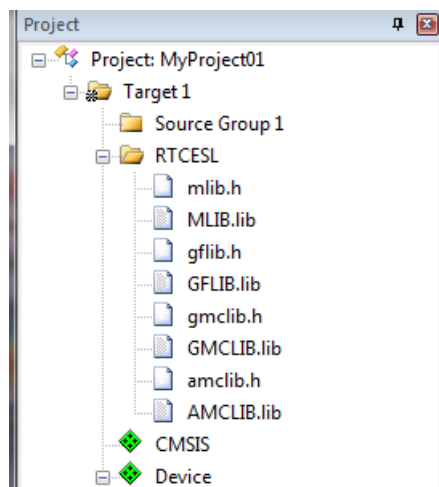

Figure 1-35. Project workspace
14. Now, all necessary files are in the project tree; see Figure 1-35. Click Close.